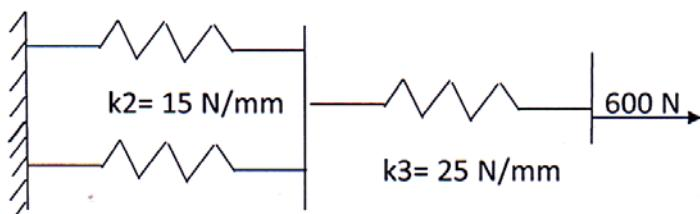

Fig. No. 3
- Q5) a)** Fig. No. 3 shows three springs, having stiffness 20, 15 and 25 N/mm, connected in parallel. One end of the assembly is fixed, and a force of 600 N is applied at the other end. Determine the deflections of individual spring [12]